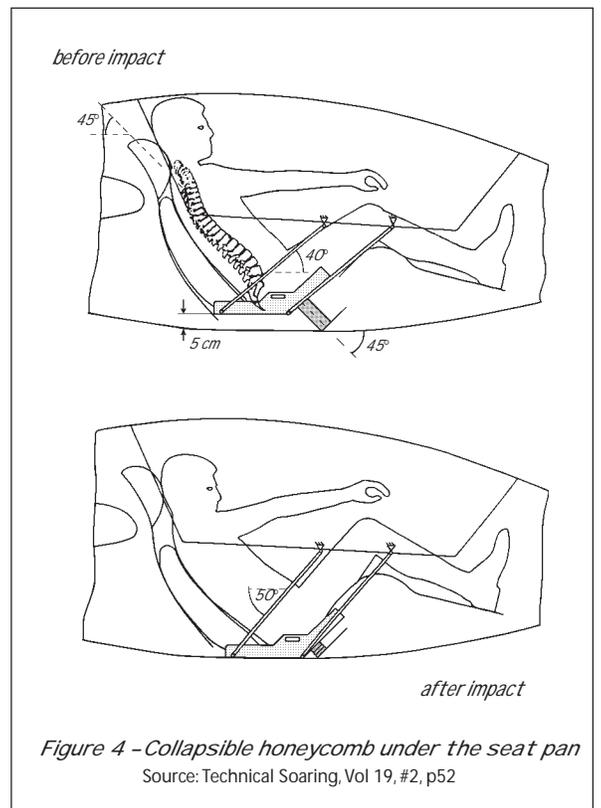

Figure 4 - Collapsible honeycomb under the seat pan
**Part 3** showed the speed ratio for six representative gliders against the Standard Cirrus at 744 pounds. This part will show a glider flying an idealized contest task on a no wind day. The probability of intercepting a thermal is 100% and all gliders finish. All speeds are at sea level at standard temperature and pressure (STP). This model and spread sheet produced the results shown in Figures 4 through 6 in this chapter.
By varying the baseline parameters and plotting the results in Figure 4, the fractional impact on performance as a function of task length is identified. Examples of this impact are summarized below in diminishing order for task length of 100 nautical miles:
Martin Sperber has designed a seat pan suspended from the cockpit wall by four swinging arms (Figure 4). The resulting movement of the seat pan means that the seat will be correctly aligned. The honeycomb material can be easily replaced after an accident.